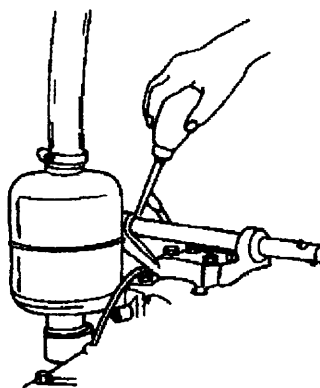

Fig. 26
- 3) Starter shaft bearing (see Fig. 26).